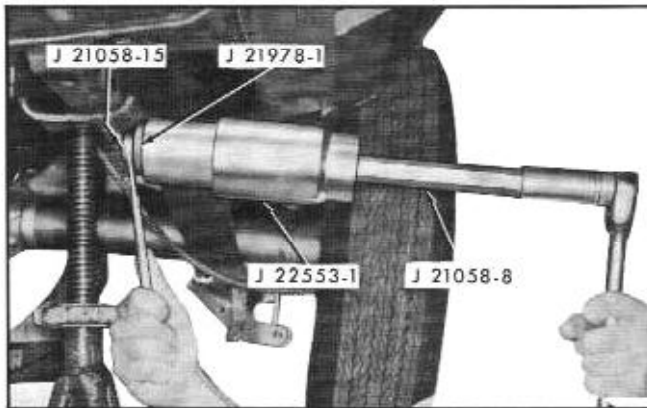

Fig. 4-3 Removing Spring Front Bushing
b. Position remover adapter J 21978-1 over puller screw J 21058-15 so that adapter is against head of puller screw. Refer to Fig. 4-3 for view of removal tools.